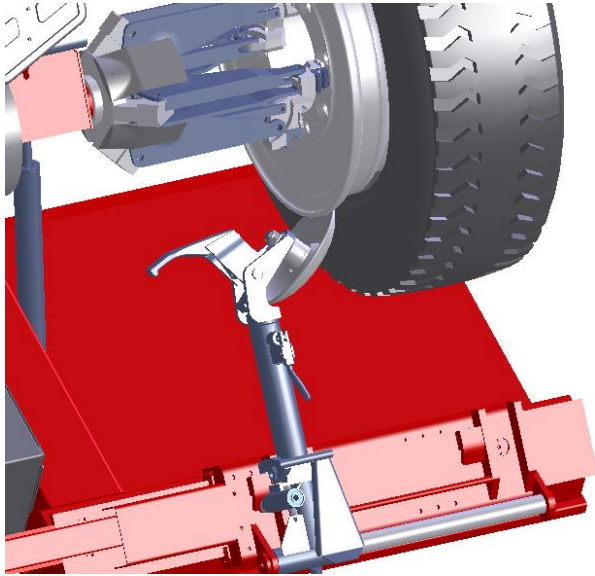
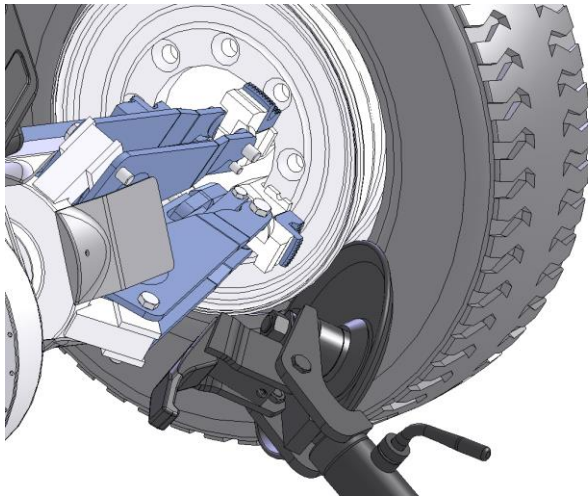

Fig. 14
Fig. 16
- Break the bead at the front part of the tyre and pushing on the bead, lubricate the rim flange and the bead with suitable grease ( Fig. 14 ).Repeat the operation on the back.
- Clamp the wheel on the self-centering chuck and raise it until the rim flange touches the bead breaking tool. Using the control and selector deflate the tyre and begin the bead breaking operation ( Fig. 16 or Fig. 14 ). Use the pedal and selector to gradually advance the bead breaking roller turning the spindle continuously.